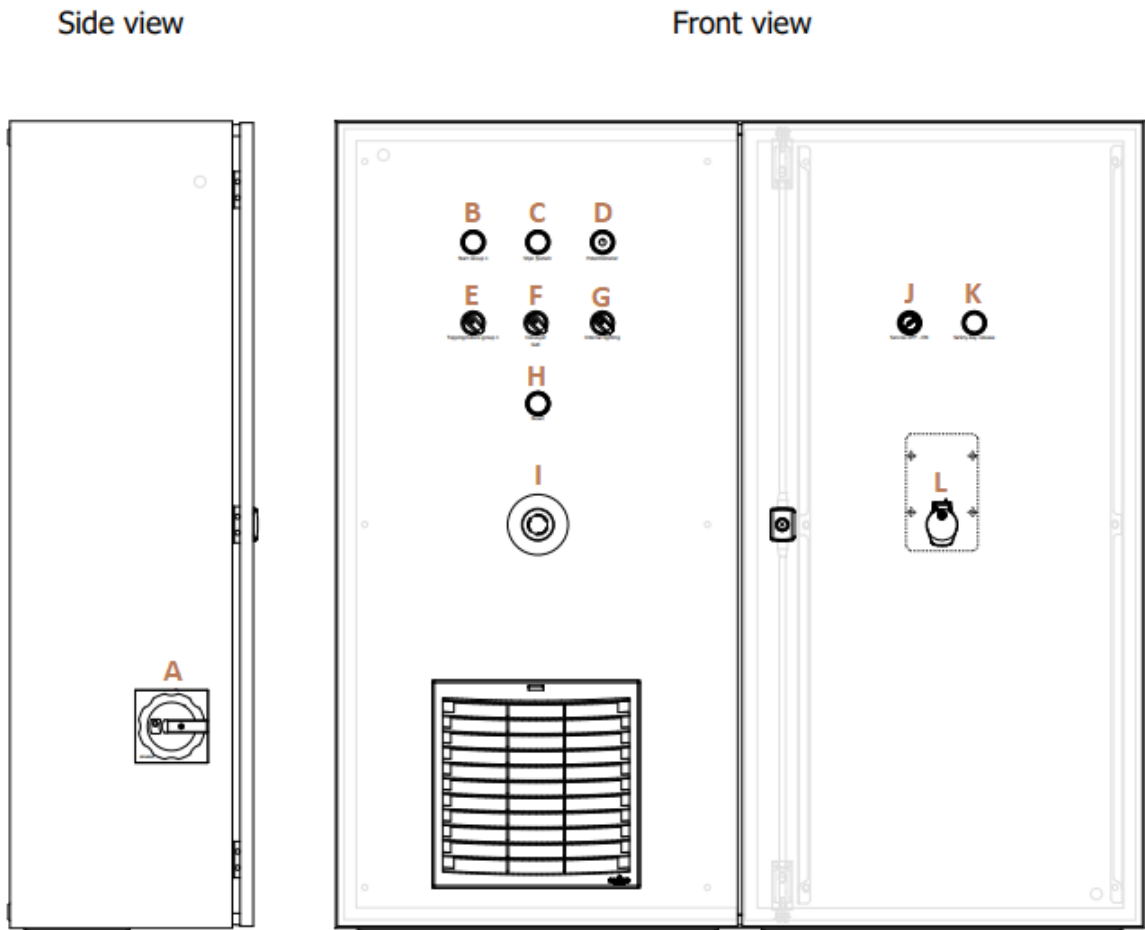

Figure 7. AS15 operator panel
See Figure 7.
To start the machine, proceed as follows (see Figure 7):
2. Press 'Stop System' (switch C, Figure 7). Take the run-down time of the blades into account. For safety reasons, further action is not possible for 30 - 60 seconds.